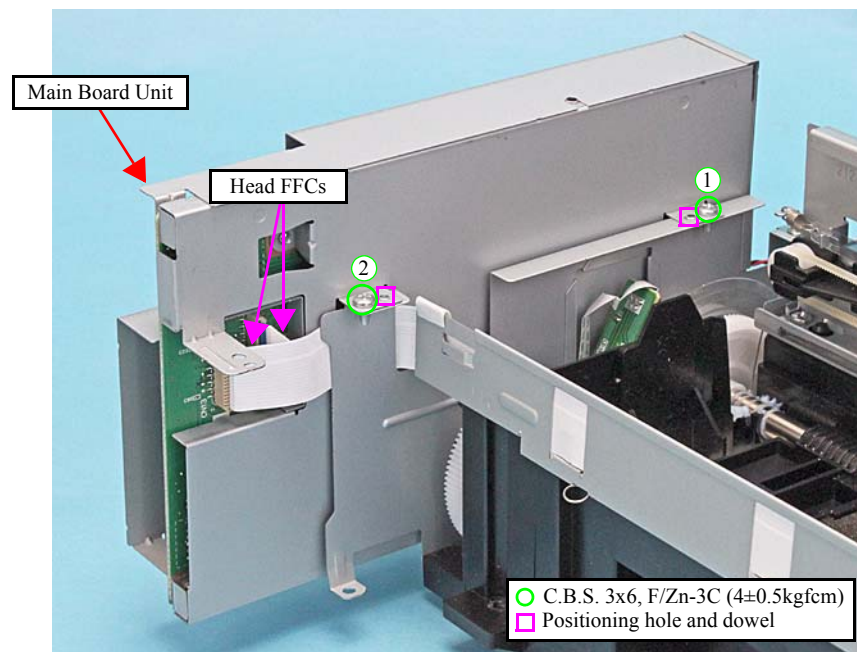

Figure 7-31. Removing the Main Board Unit
- When reassembling the Main Board Unit, make sure to match the positioning holes (x2) to the dowel (x2) of the Left Frame as shown in Figure 7-31.
- When installing the Main Board Unit, tighten the screws in the order given in Figure 7-31.